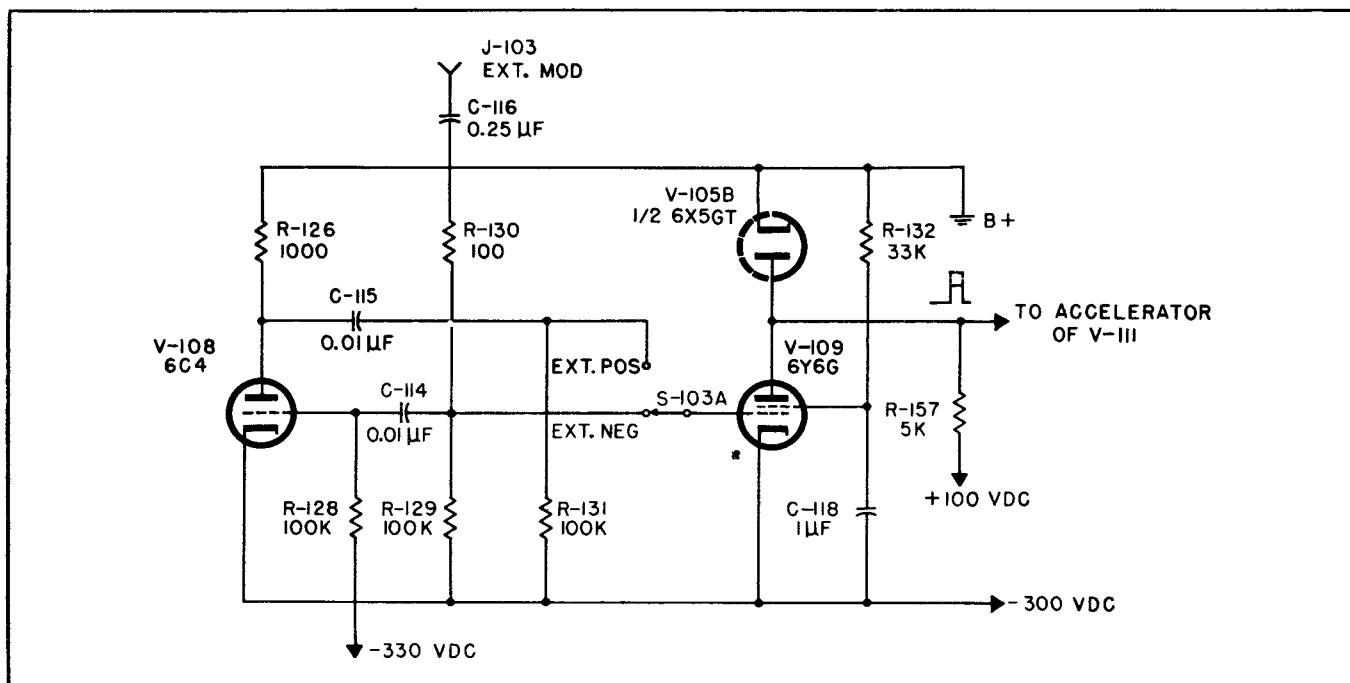

Figure 3-16. External Modulation Circuit
f. EXTERNAL MODULATION.—If the oscillator is to be modulated with an external square wave or pulse, the pulse is applied to Jack J-103, the EXT MOD jack (figure 3-16). Positive pulses are applied through S-103A to the grid of V-108 which is normally below cut-off. The positive pulse on the grid results in a negative pulse in the plate of V-108 and this negative pulse is applied to the grid of V-109. A positive pulse is then obtained in the plate of V-109 and is applied to the accelerator grid of the reflex klystron V-111, permitting rf oscillation for the duration of the pulse.